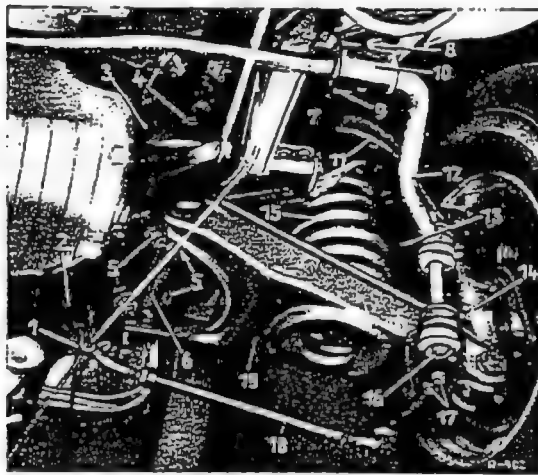

Fig. 32-6/1
1. Detach the torsion bar (12) mounting from the lower control arm (19) at the right and at the left. Remove the hexagon nuts, pull out the hexagon screw (16), and remove the cup washers, the rubber buffers and the spacer tube (Figs. 32-6/1 and 32-6/2).